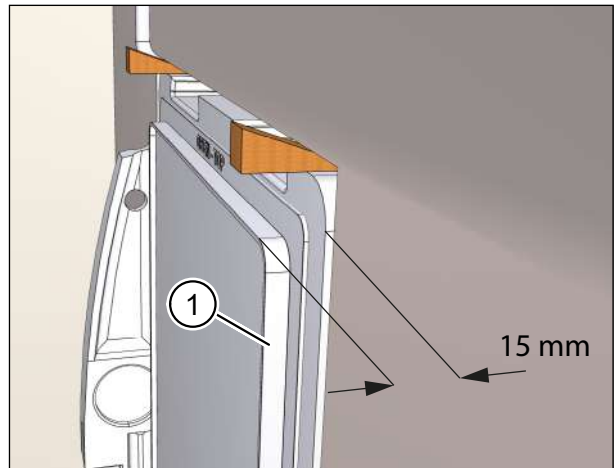

Fig. 22: Depth of plastering trim 15 mm
The plastering trim is 15 mm deep (see Fig. 22).
- ▶ If the interior wall is not perpendicular or flat, align the front surface of the plastering trim (item 1 in Fig. 22) parallel to a plaster stop bead running vertically.